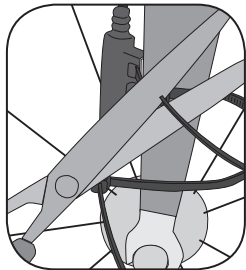

Figure 11- Trim excess nylon tie length
5. Tighten the nylon ties and trim the excess length (Figure 11).